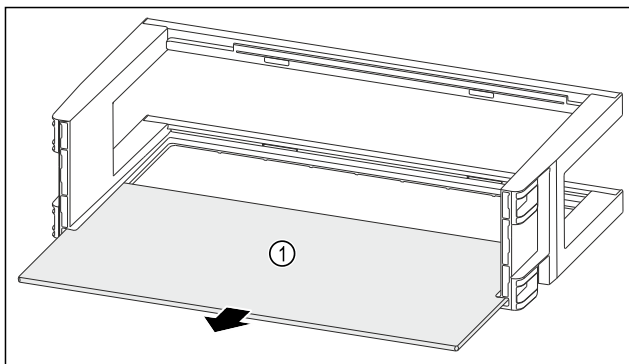

Fig. 151
- ▶ Remove the shelf Fig. 151 (1).